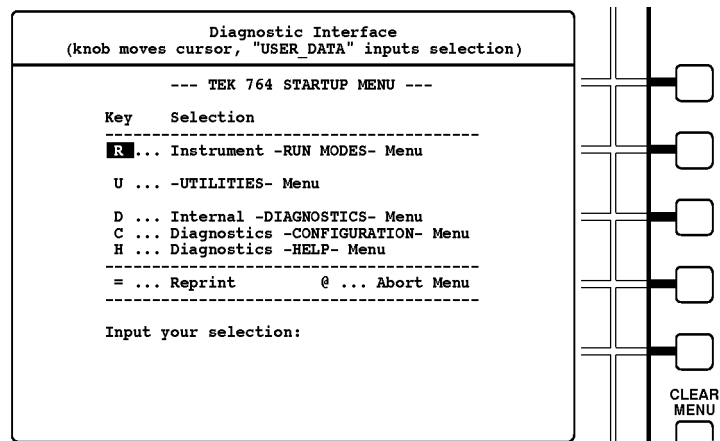

Figure A-1: The startup menu display
The diagnostic interface will present you with the Configure Diags Loop Mode menu; see page A-12. If you wish to review the results log, press the **CLEAR MENU** button a second time to reach the Startup menu shown in Figure A-1. See *Viewing the Results Log*, on page A-18, for more information.
3. Release the MENU button and the Startup menu will appear, as shown in Figure A-1. This is the home menu of the 764 Digital Audio Monitor diagnostic utilities.
- Move the cursor/highlight by turning the 764 Digital Audio Monitor multi-function knob. (In Figure A-1, the cursor is on the letter R that precedes the < Instrument -RUN MODES- Menu > selection.)
- Select <@ ... Abort Menu> (highlight <@> and press **VIEW:USER DATA**, or simply press **CLEAR MENU**) to move back to the previous screen. For example, when in the Run Modes menu, aborting the menu will return the interface to the Startup menu shown in Figure A-1.
- b. Release the **MENU** button, and the Startup menu, illustrated in Figure A-1, will appear. Note that the selection cursor (highlight) is on the letter R that precedes the <Instrument -RUN MODES- Menu > selection.